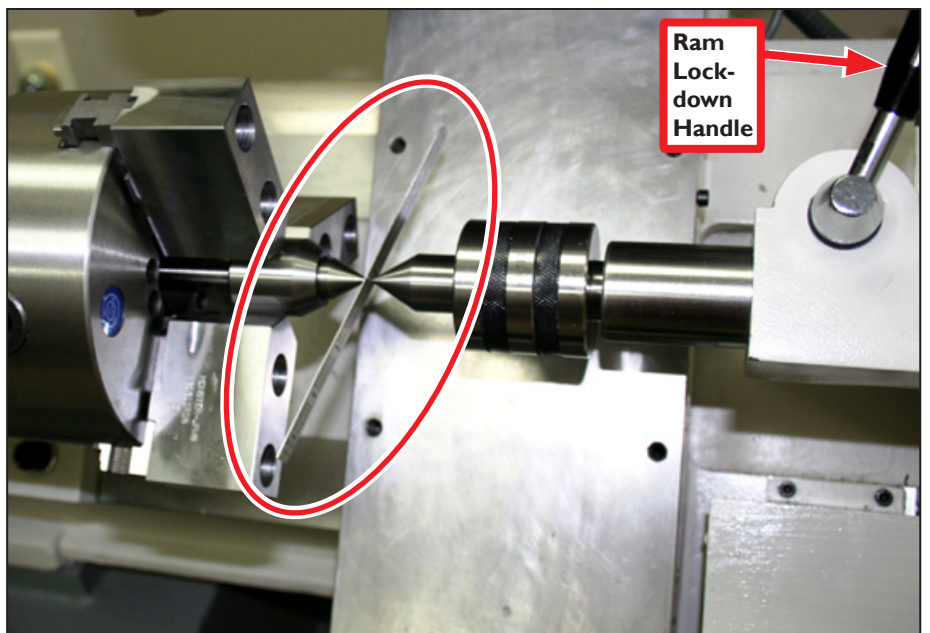

Figure 10
3. Insert a 6" steel rule between the two pointed centers and rotate the tailstock hand wheel to lightly pinch the 6" rule (see **Figure 10**). Before proceeding, ensure the Ram Lock-down Handle is tight.